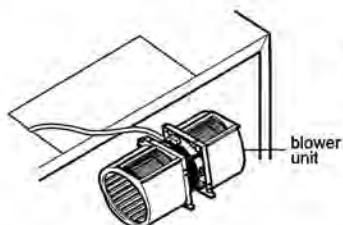

Figure 19
3. Rotate blower unit 90° so the exhaust ports face the top of the cabinet. See Figure 19.